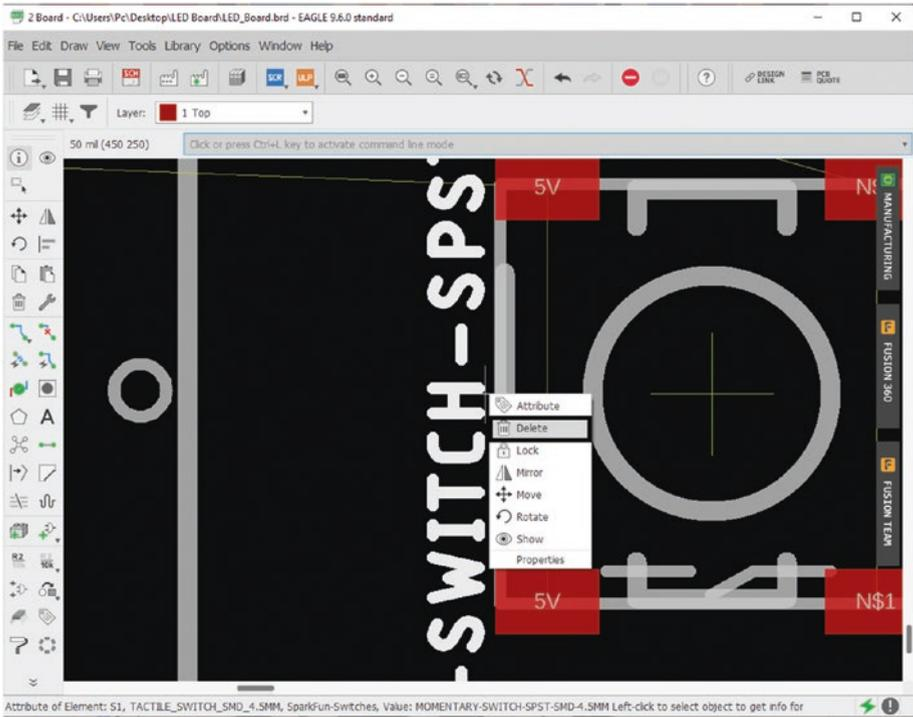

Figure 5-66. Delete button name value
15. You may notice that the push button's device name is very long and not necessary to put on the PCB. If you zoom in to the PCB and right-click the "+" right next to the name, you can select "Delete," and this will remove the name from the PCB. See Figure 5-66.